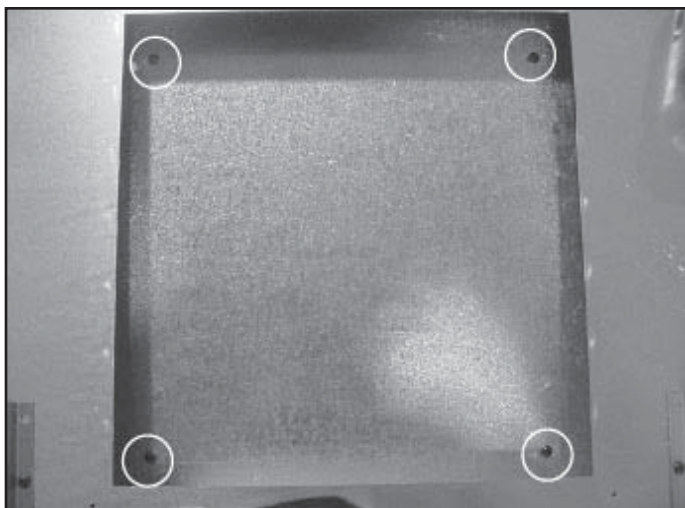

Figure 9.16 Cover Plate-Replace
- Locate heat shield cover plate removed in the first step. Place the heat shield cover plate on top of heat shield. Replace four screws to hold this plate in place. See Figure 9.16.